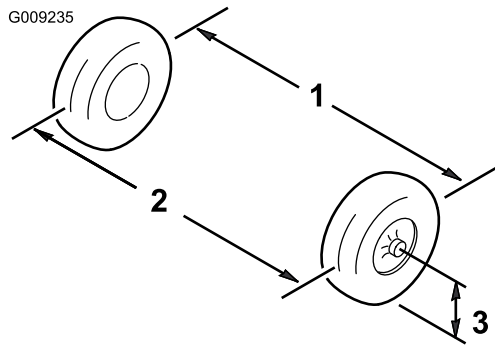

Figure 32
1. Measure the distance between both of the front tires at the axle height at both the front and rear of the front tires (Figure 32).